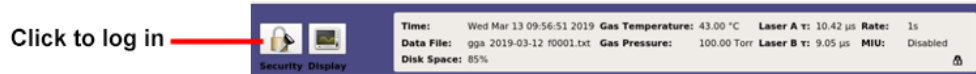

Figure 13: Control Bar Security Button
1. Click the **Security** button on the *User Interface Control Bar*. (Figure 13)